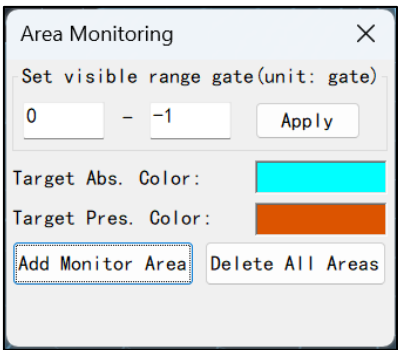

Figure 4-8 Area Monitoring window
- Step 2: Click the **Area Monitoring** button, a new window will appear, as shown in Figure 4-8, descriptions of the window are as follows: